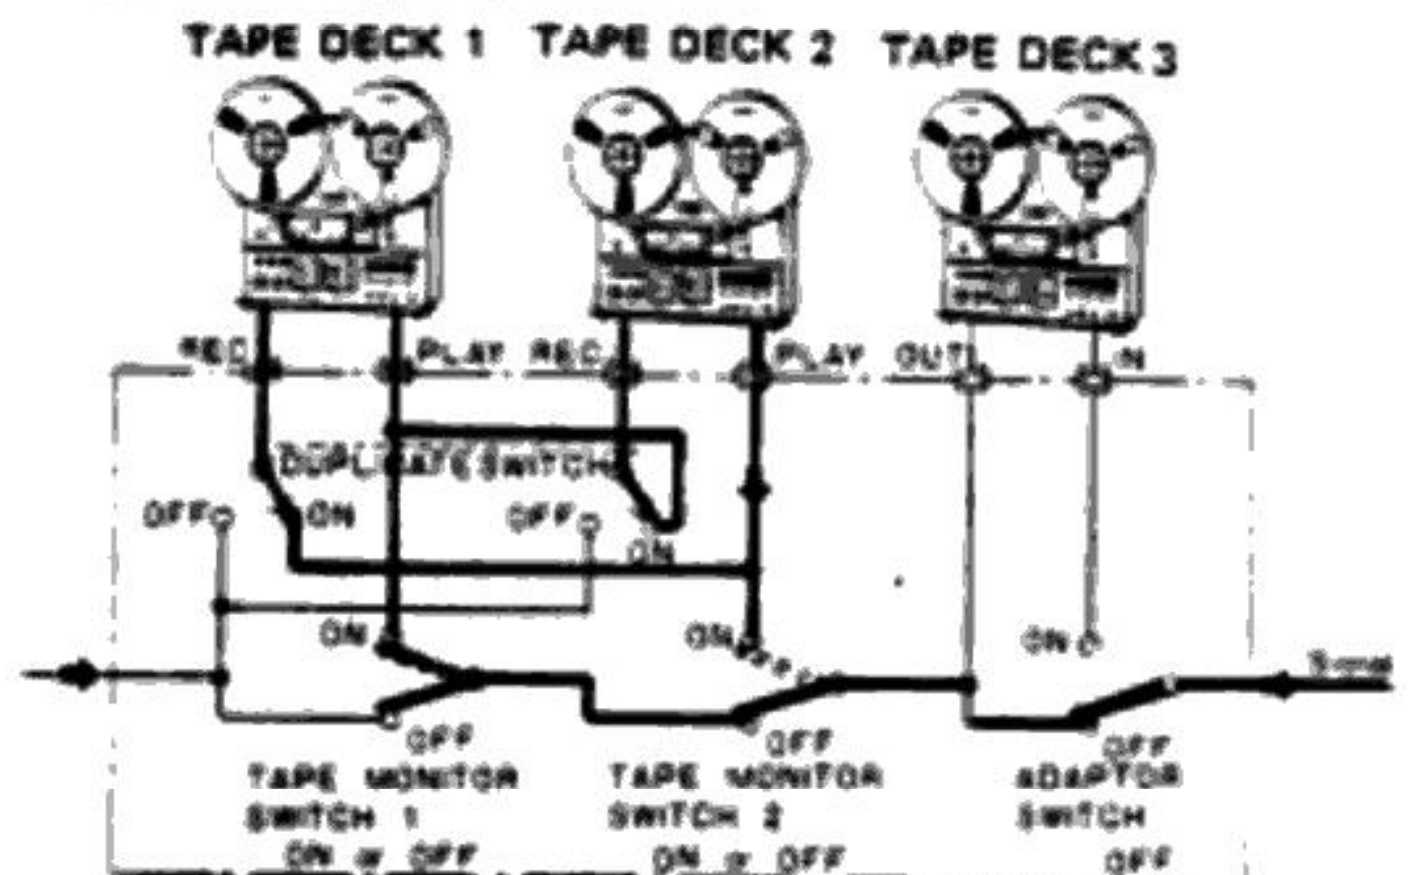

Fig. 23
1. Connect the two tape decks as shown in Fig. 23.
4. When recording with tape deck 1, TAPE MONITOR switch 1 should be switched ON to monitor the sound being recorded, and when recording with deck 2, TAPE MONITOR switch 2 should be switched ON for monitoring (refer again to Fig. 23).